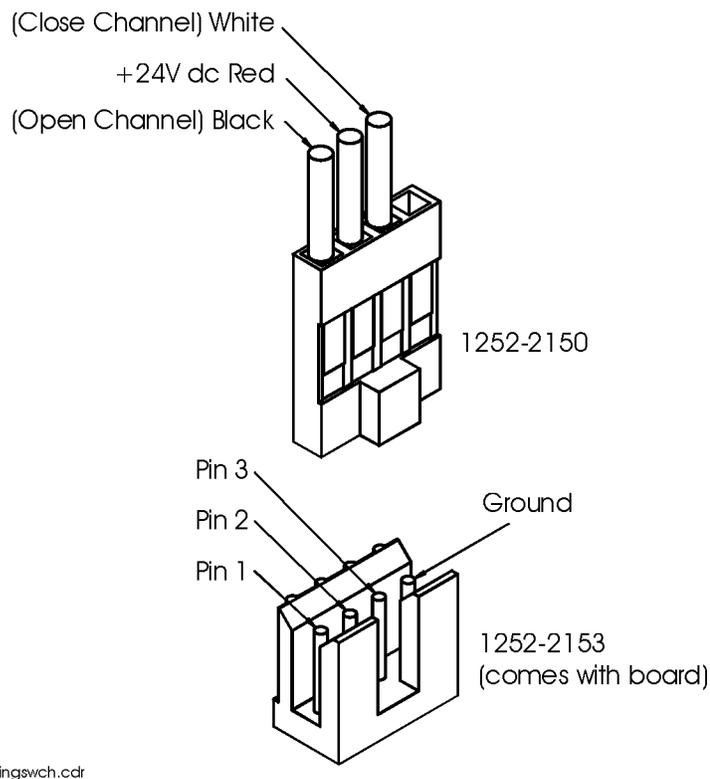

Figure 2-6 Typical Single Switch Channel Connector
- The distribution board has 31 4-pin black output connectors numbered J1 to J31 (silkscreened on the circuit side of the PCA), in addition to 31 mating cables which allow a cable harness to be quickly assembled to connect to relays. Refer to Figure 2-6 for pin wiring that determines an OPEN or CLOSE condition on each switch.
- a. Refer to Figure 2-6 to wire your relays into the arbitrary positions of OPEN and CLOSE.